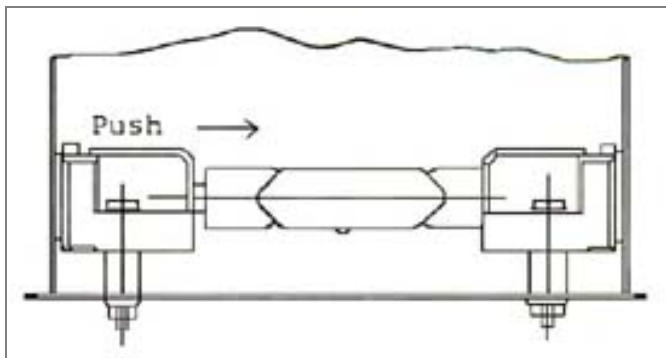

Figure 5.
7. Push the Bulb lightly towards the opposite Socket of the Lamp so that the Bulb end being grasped can be lifted clear of the Socket as shown below in Figures 5 and 6.